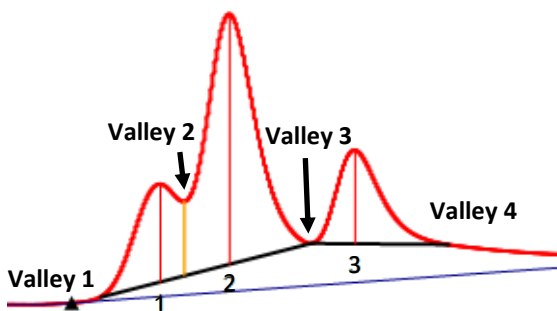

Figure 5.2.3-5: Integration of multiple peaks complete.
4. The integration is complete when a solid black line appears. The result shows the integration line and the splits placed between joined peaks. (Figure 5.2.3-5)
5. To integrate the remaining peak (in Figure 5.2.3-5, Peak 3). Click and hold at Valley 3 and drag to Valley 4.